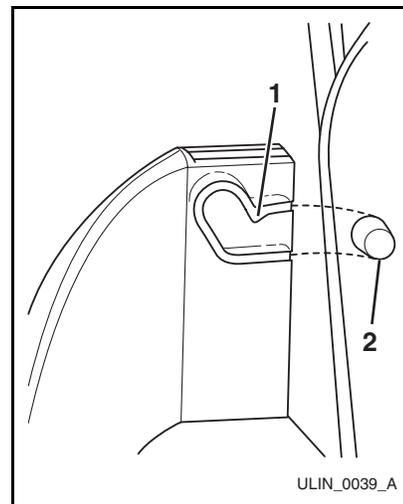

Figure 28
2. Carefully pull shelf off bosses **(Figure 28, 2)**.
1. Holding shelf in center, align notches (**Figure 28, 1**) in shelf with bosses (**Figure 28, 2**) in door.